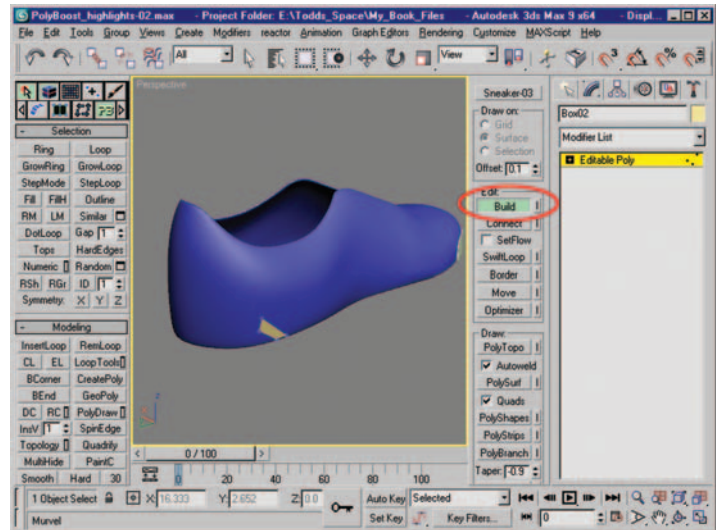

Figure 12.29 Initial polygon created on the sneaker's surface using the Build tool.
- Figure 12.29 shows the mesh with the first polygon created on the sneaker mesh surface.